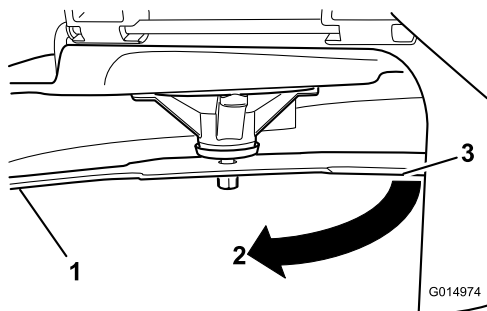

Figure 58
4. Rotate the same blade 180 degrees so that the opposing cutting edge is now in the same position (Figure 58).